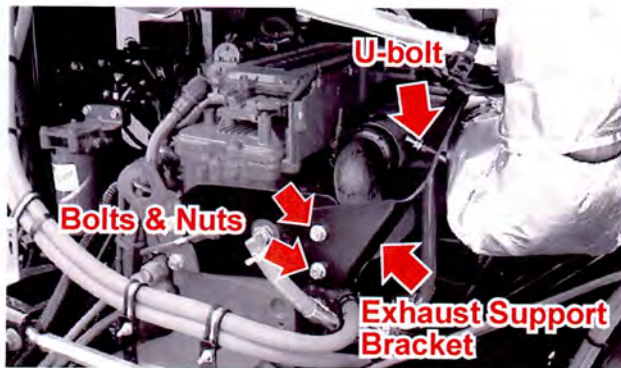

Figure 8
10. Place the exhaust support bracket A2350940-001 into position. Install but do not tighten the two GE410137AK12 bolts, two GE286237BL01 nuts and one U-bolt 8071366. Once all are in position, tighten the bolts to 23 ft-lb (31 N·m) of torque and tighten the U-bolt to 23 ft-lb (31 N·m) of torque (see Figure 8).